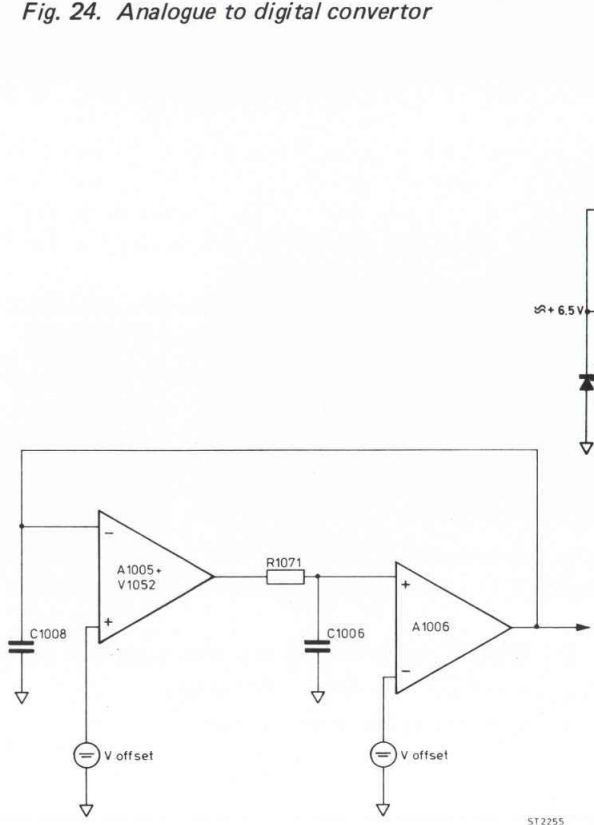

Fig. 25. Automatic zero
7.3.1. Automatic zero (Fig. 25)
The principle of operation is shown in Fig. 25. During the automatic zero period V1053 and V1054 are conducting. The integrator and comparator offset voltages are charged then into C1008. This means that integration (ramp-up) starts at zero level added with the offset voltages.